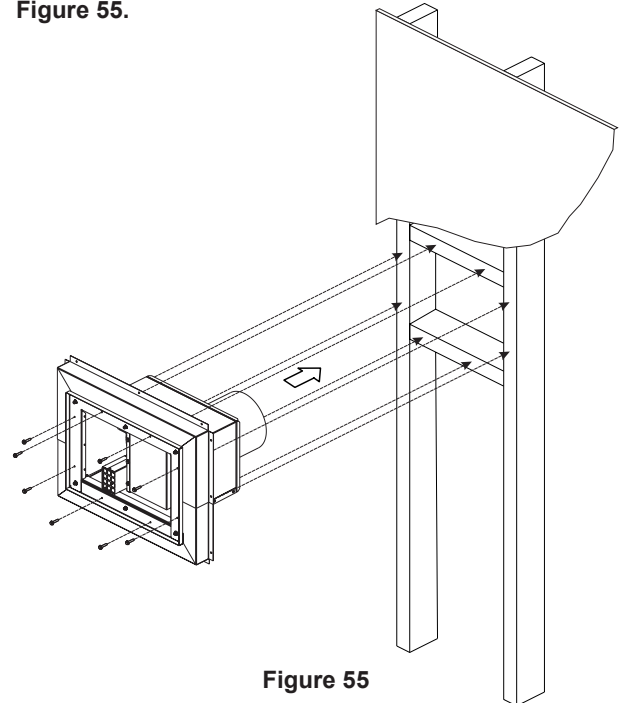

Figure 55
5. Apply a bead of silicone to the flange of the standoff. Place the Power-Vent into the hole with the inducer outlet toward the bottom and secure with (8) #10 X 1 inch screws as shown in **Figure 55**.